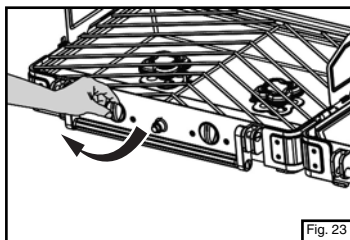

Fig. 23
1. Place the stove on a flat and level surface. Set up the stove (see Fig. 1 through Fig. 6) and make sure the controls are off (Fig. 23).